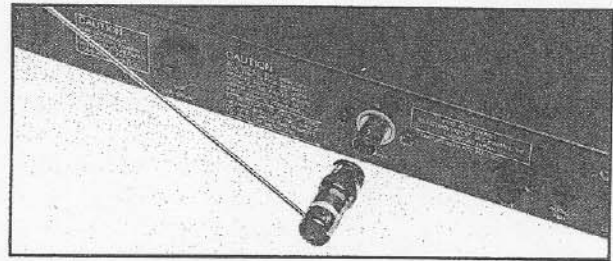

Figure 1 - Connect Antennas on Rear Panel
- 1) **Attach the whip antennas to the rear-panel antenna connectors, twisting clockwise one-quarter turn to lock (disconnect by lightly pushing in and twisting counter-clockwise one-quarter turn) (see Figure 1).** Position the antennas in an upright "V" configuration (like TV rabbit ears). Note: dipole antennas provide better range and reliability in difficult installations. See section on antennas later in this manual.